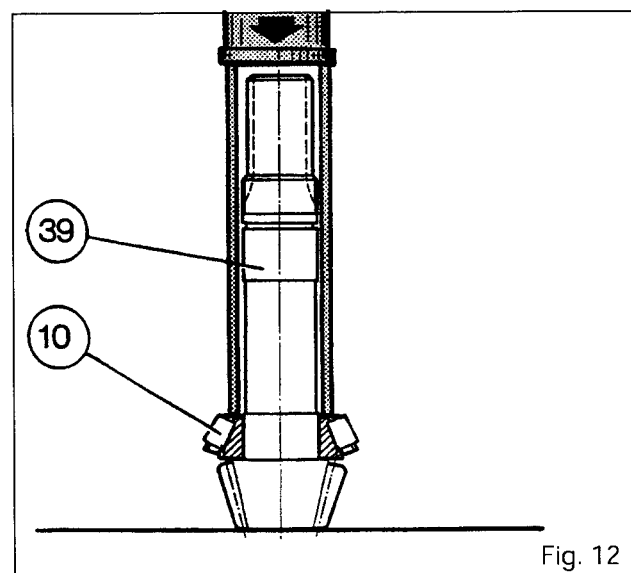

Fig. 12
**Note:** Make sure that the bearing cone (10) is correctly seated in the cup (9).
41. Fit the cone fully home against the shoulder on the drive pinion, using a press and a suitable fixture (Fig. 12).
42. Place the shims (8), ensuring the previously calculated thickness, in the housing.
43. Fit the cup (9).
44. Shim the bearings (9), (10) and (5), (6).